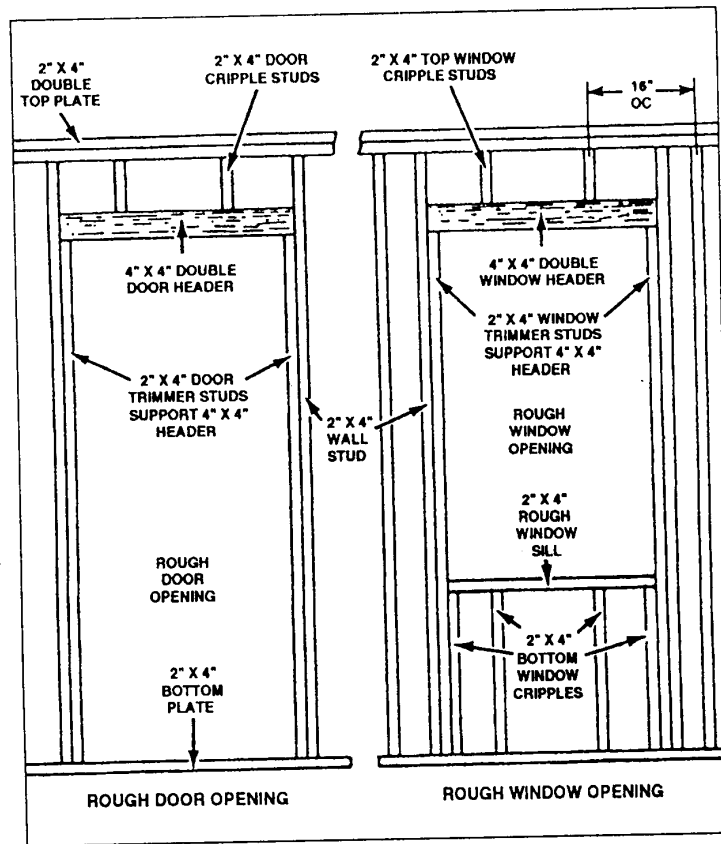

Figure 4, Cripple Stud Layout
**Step 9: Cripple studs are placed in between the sole plate, the sill, the header and the top plate (Figure 4).**